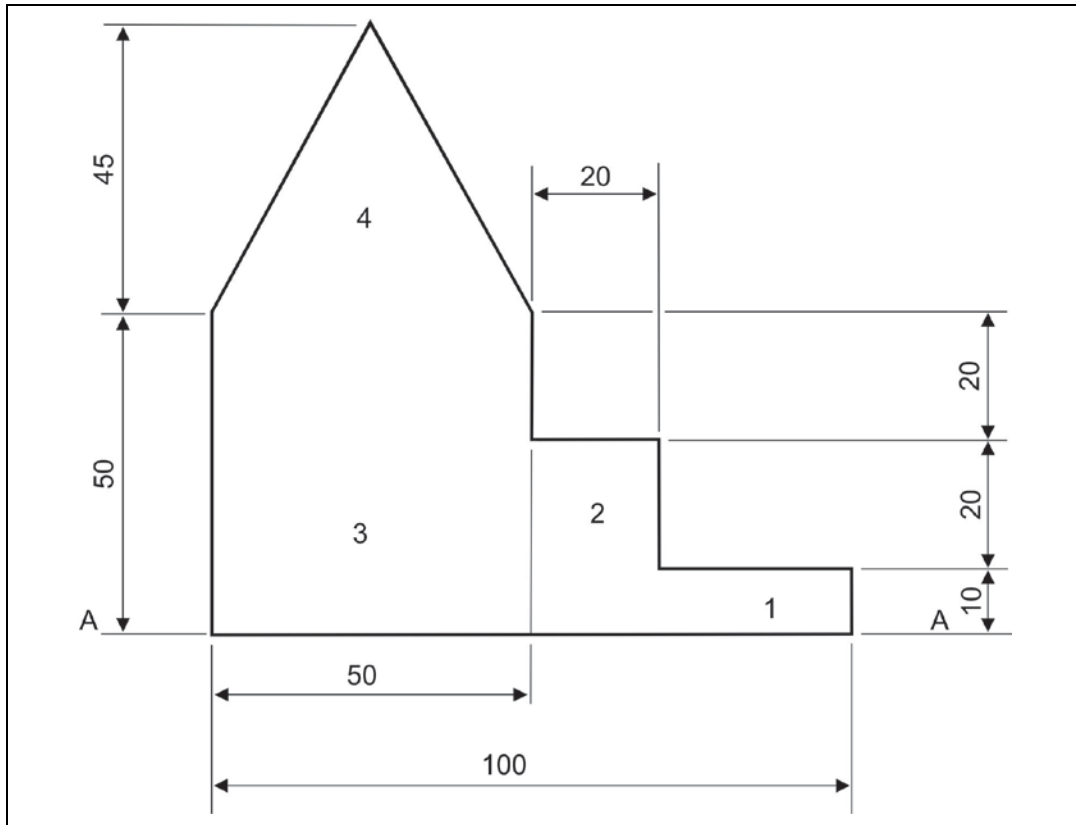

FIGURE 5.1
5.1 FIGURE 5.1 below shows a figure of a lamina. Study the lamina and calculate the position of the centroid from axis A–A. All the measurements are in millimetres. (8)